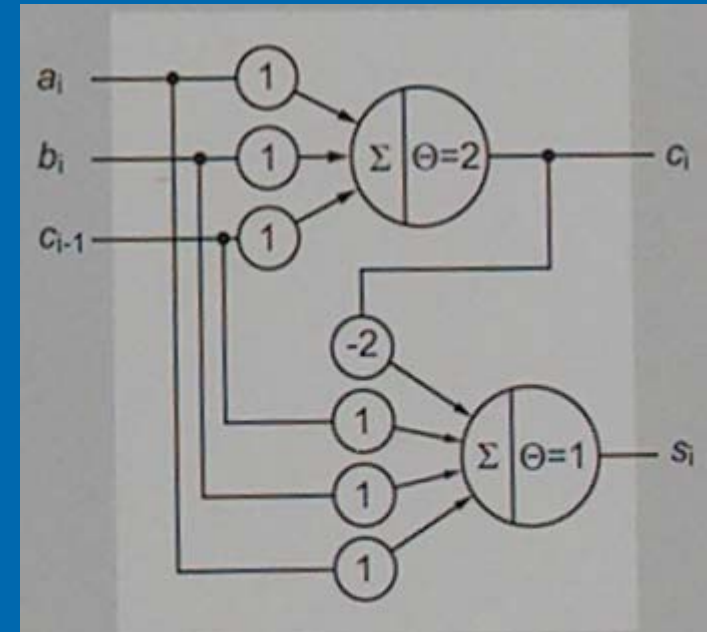

Figure 6: Full adder realized by threshold logic.
- A full-adder is shown in the figure (fig 6)